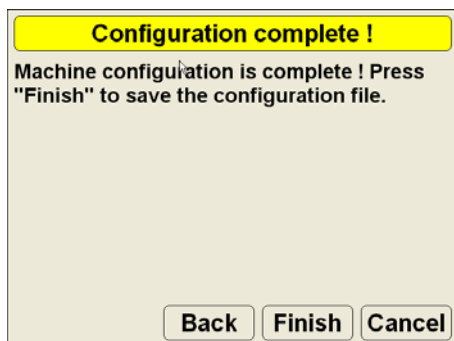

Figure 8-19. Save Machine Configuration
6. Press **Finish** to save the machine configuration file (Figure 8-19).